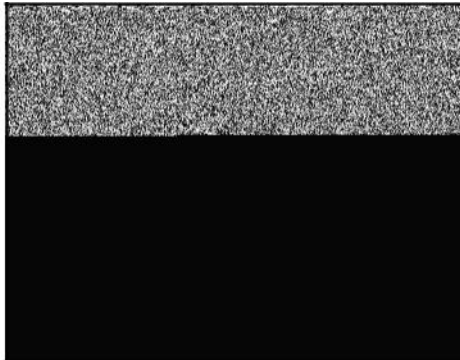

Figure 20
3. Pre-oil and install outer rotor (**D**, Figure 20) in pump cavity. Do not use force to install.